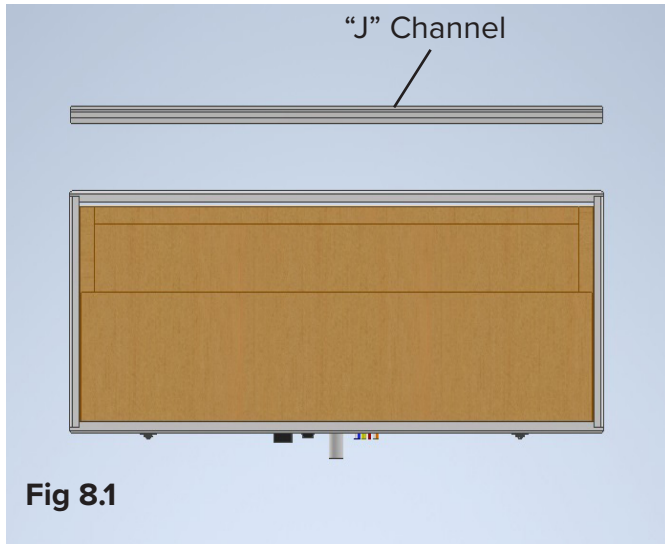

Fig 8.1
1. The Slat Wall stack starts with the "J" Channel and is set on top of the Corian counter, be sure to center the "J" channel on the counter (Fig 8.1).